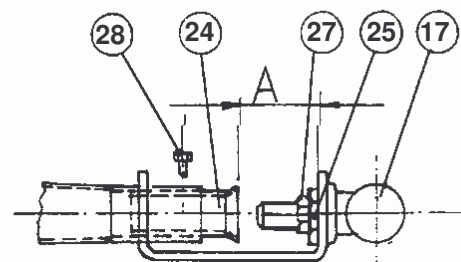

FIG. 4
remove the grills (1), grill support (2), the lava supporting frame and you will now be able to see the burner. Open the burner's air regulating bush completely (3) and change the nozzle (27). Put everything back in place; place the burner air regulating bush (24) at the distance specified ("A") in the Technical Data table according to the type of gas (Fig. 10). (Fig. 4).
- Changing the pilot nozzle (19):